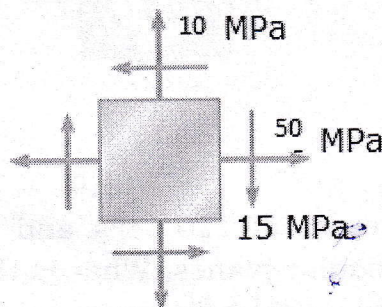

fig.7
- Q5 a) For the plane state of stress  $\sigma_x = 50 \text{ MPa}$ ,  $\sigma_y = 10 \text{ MPa}$ ,  $\tau = 15 \text{ MPa}$  as shown in fig.7, determine [6]